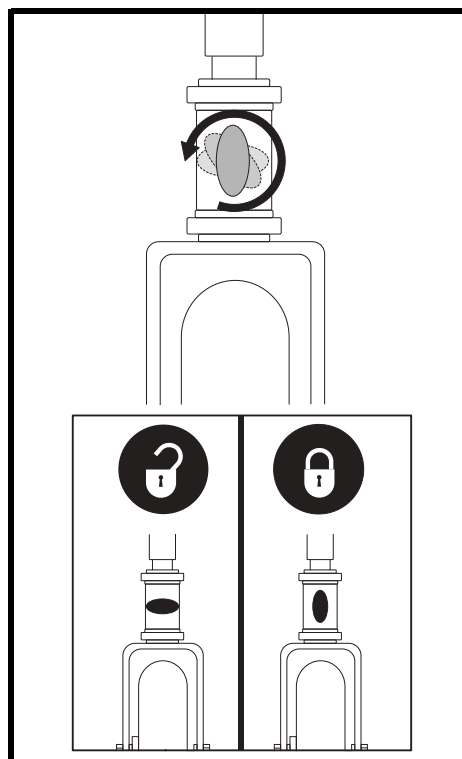

Figure 22. Tiller Lock Knob (Model 104 only)
1. Remove the key from the key switch. *For model 104*, lock the tiller in the straight ahead position by pushing the tiller lock knob in and turning it clockwise 90°. **See figure 22.** The front wheel must face forward in order to lock the tiller.